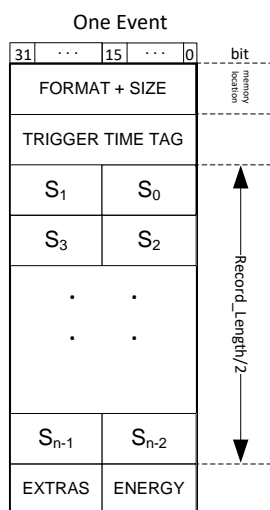

Fig. 2.1: Data organization into the Internal Memory of 780 series.
Therefore, the events size can be easily calculated. Fig. 2.1 shows how the data are saved into the physical memory.
**Note:** Fig. 2.1 refers to the event storage into the physical memory of the board. Data are then organized in a different format for the event readout. The event readout format is shown in the **Event Data Format** section.